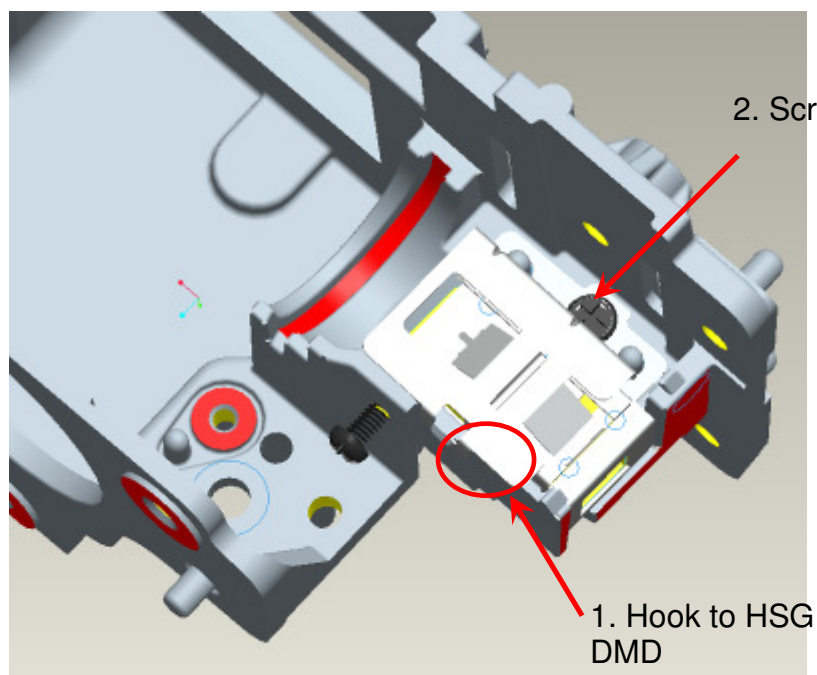

Fig. 1-11
- (2) Hook Clip LP to HSG DMD, and lock with screw well. (Fig. 1-11).